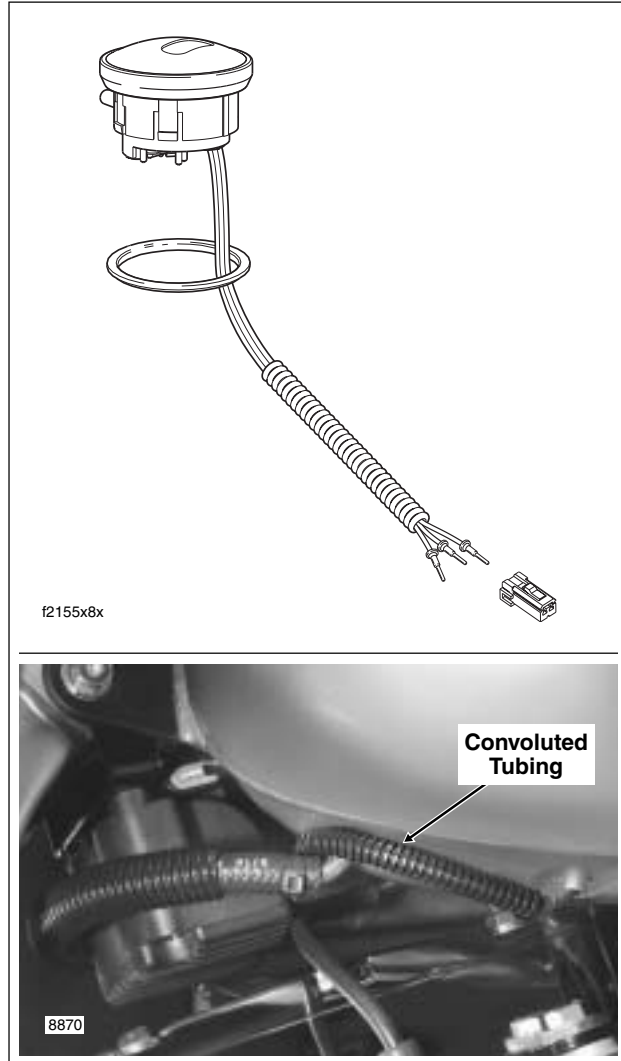

Figure 8-116. Fuel Gauge (FLHR/C/S)
- Route pin housing and convoluted tubing forward and then inboard between front of crossover hose fitting and bottom of fuel tank. Mate pin and socket halves of fuel gauge connector [117], 4-place Multilock. Feed connector into tunnel of fuel tank. See lower frame of Figure 8-116.